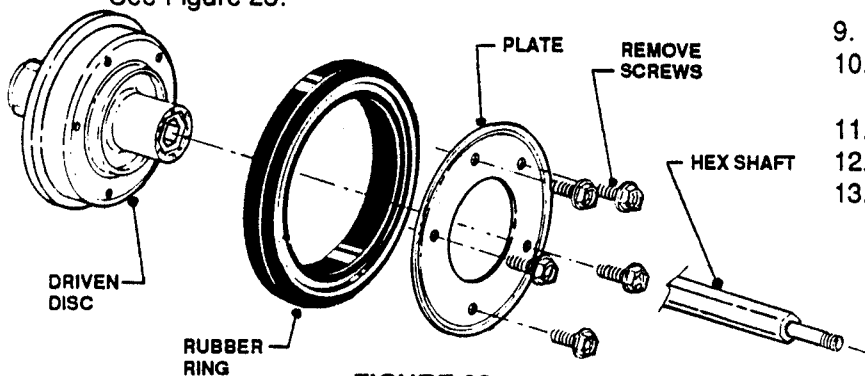

FIGURE 23
4. Remove the five machine screws and plate securing the Driven Disc rubber ring to the hub. See Figure 23.